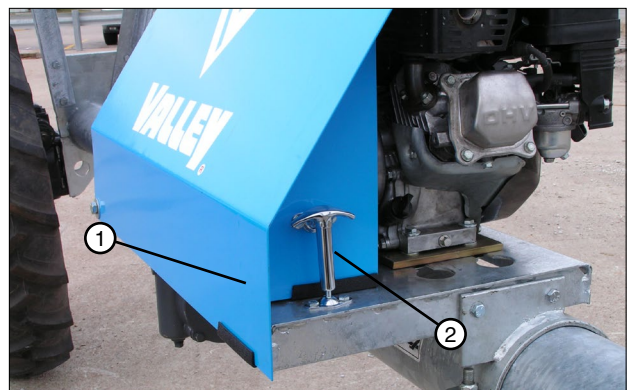

Figure 15-3 1. Cover
6. Close cover and latch in position BEFORE STARTING THE ENGINE. See figure 15-3.